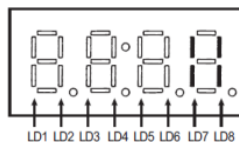

Fig. 14
- The service monitor/LED screen on the HBC initially will display the system information (software version, refrigerant type, unit address etc.). Wait till the last two segments has two line i.e. LD7 and LD8 as shown on figure 14;
Switch off the remote controller of the indoor unit No.18 and after this the LED will show the two lines on LD7 and LD8 as shown in Figure 14